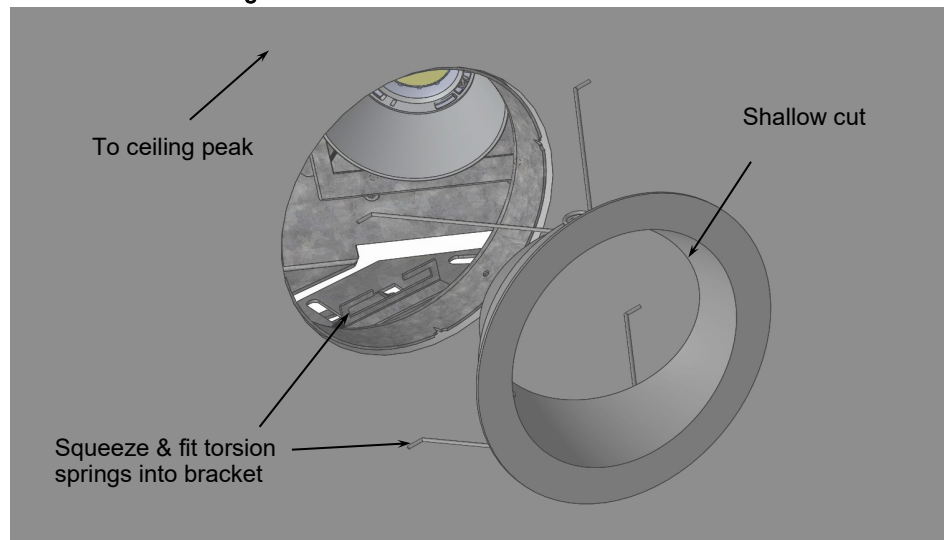

Figure 3
1. To install *lower trim assembly*, align shallow cut of reflector towards ceiling peak. Squeeze the 2 ends of each torsion spring together and engage the two torsion springs into the slots on both sides of the frame opening in the housing. Slide trim up and fully seat against ceiling surface. (Figure 3)